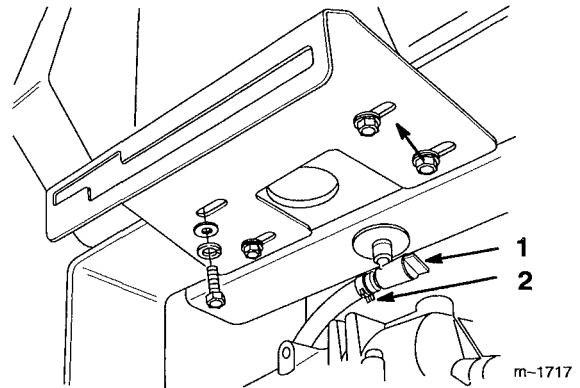

Figure 26
2. Close fuel shut-off valve at fuel tank (Fig. 26).
3. Squeeze the ends of the hose clamp together and slide it up the fuel line away from valve (Fig. 26).
4. Pull the fuel line off the valve (Fig. 26). Open fuel shut-off valve and allow gasoline to drain into a gas can or drain pan.
6. Open fuel shut-off valve at fuel tank (Fig. 26).